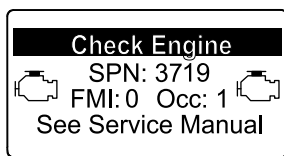

Figura 75
- Engine warning (Avertisment motor) SPN 3719, FMI 0 (Figura 75)